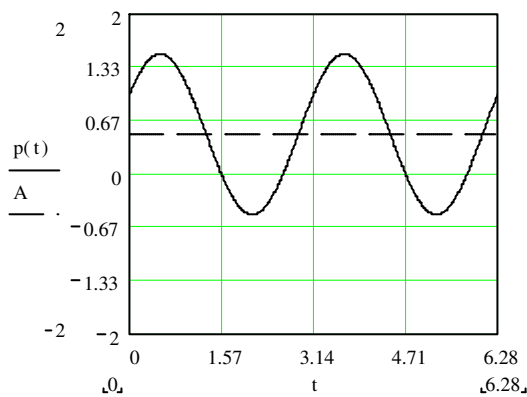

Figure 1b
- Middle Figure 1b – Inductive load at 0.5 power factor.